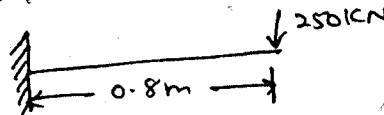

Fig. Q7 (b)
b. A Cantilever beam subjected to point load of 250 kN as shown in Fig. Q7 (b). Determine deflection at tip and support reactions. (08 Marks)